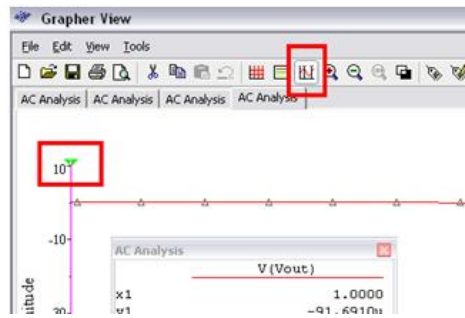

Figure 10. Setting Cursors
1. To find the -3db point, you first need to select your cursors. You can do so by first clicking on the cursor item in your toolbar. The cursors will appear at the top of your Y-axis (in the red box of Figure 10)